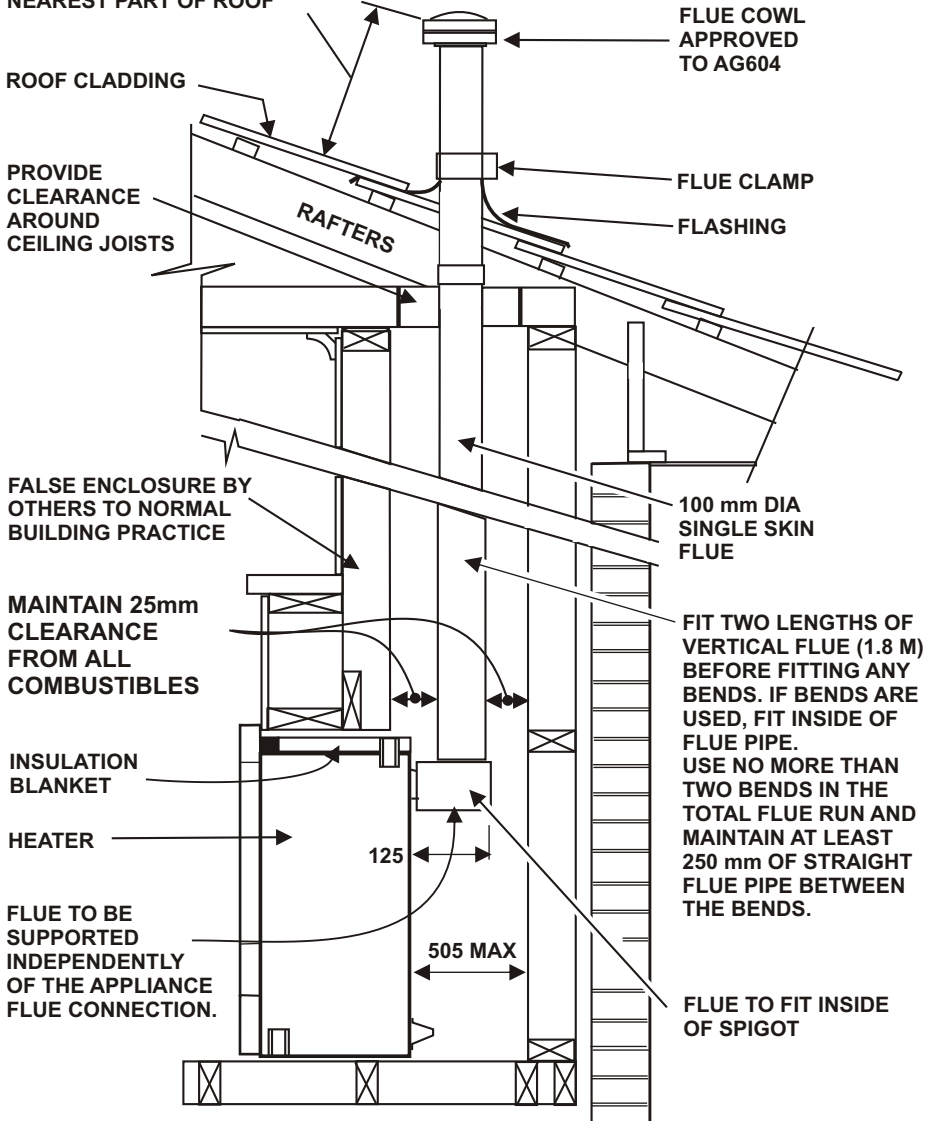

FIG 7.
1. CUT FLUE OPENING CENTRAL TO WALL STUDS IN THE WALL CLADDING. (SEE FIG 7.)